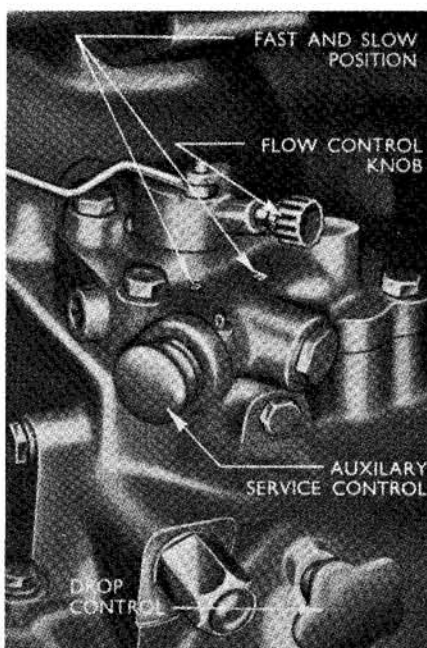

Fig. 201—View showing location of drop control valve knob on model "New FSM". Refer also to Fig. 202.
Fig. 194—View of controls on model "FSM" hydraulic system. Model "New FSM" controls are similar except for drop control knob shown in Fig. 201. Refer to Fig. 210 for legend.
To adjust the restrictor valve, refer to Fig. 201 and turn drop control knob fully in. Raise implement to fully raised position, then move control lever to lowering position. If the implement lowers too slowly, back drop control knob out until desired rate of lowering is obtained.
Fig. 205—View of controls on model "FSM" hydraulic system. Model "New FSM" controls are similar except for drop control knob; refer to Fig. 201. Refer to text for adjustment of linkage (56).